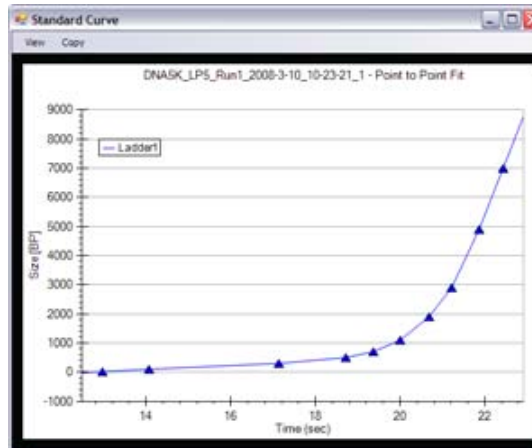

Figure 6. Standard Curve Window - DNA
- 5 The ladder is analyzed (see “Ladder Analysis” on page 257) and a standard curve of migration time versus DNA size is plotted from the DNA ladder by interpolation between the individual DNA fragment size/migration points. The standard curve derived from the data of the ladder well should resemble Figure 6.